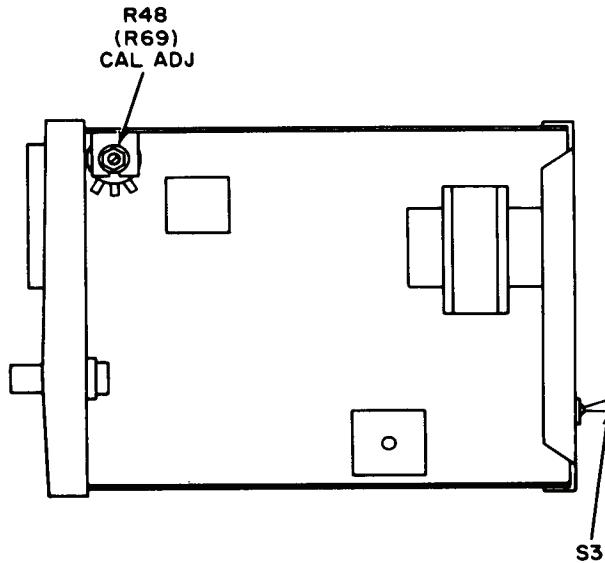

Figure 1. Dc milliammeter - right-side view.
- (5) Set **POWER** switch to **ON**.
(6) Insert probe head into degausser at rear of TI (front of TI if rack-mounted) with arrow on probe pointing in same direction as arrow on chassis.
(7) Press pushbutton S3 (fig. 1) to energize degausser.
- (1) Set RANGE switch to **100 MA**.
- (2) Set calibrator for a 100 mA dc output.
- (3) Adjust R48 CAL ADJ (R69 CAL ADJ) (fig. 1) until meter indicates 100 mA dc (R).